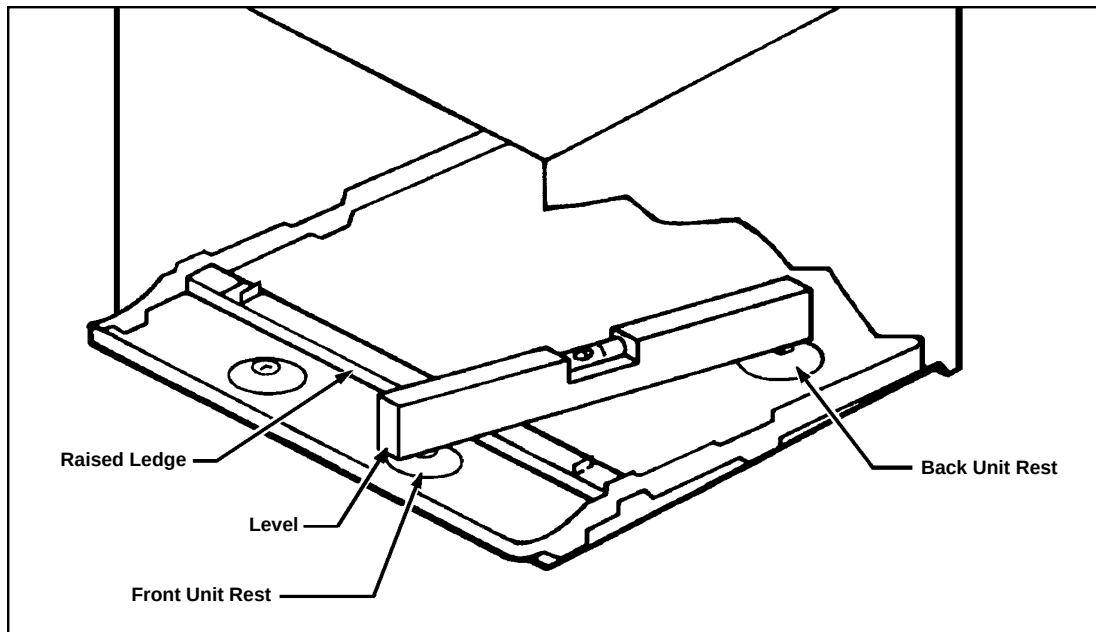

Figure 8
- A. Adjustable SUBBASE (SB) or other unit support must be provided for panel wall type construction and for walls less than 8" thick.
- B. A minimum distance of 1" must be allowed on all sides of the unit to adjacent wall and floor. Where the subbase is required, the minimum distance from the floor to the sleeve must be 3 1/2". To minimize chances of short cycling of the compressor, the minimum clearance between the ceiling and the top of the unit should be 24". (See Figure 8).
- STEP 4** The WSC SLEEVE must also be installed with a downward tilt toward the outside of the building. If a level is placed so that it rests on the FRONT and BACK UNIT REST as shown in Figure 8, a properly installed unit provides a $\frac{1}{2}$ bubble slope to the outside of the building.